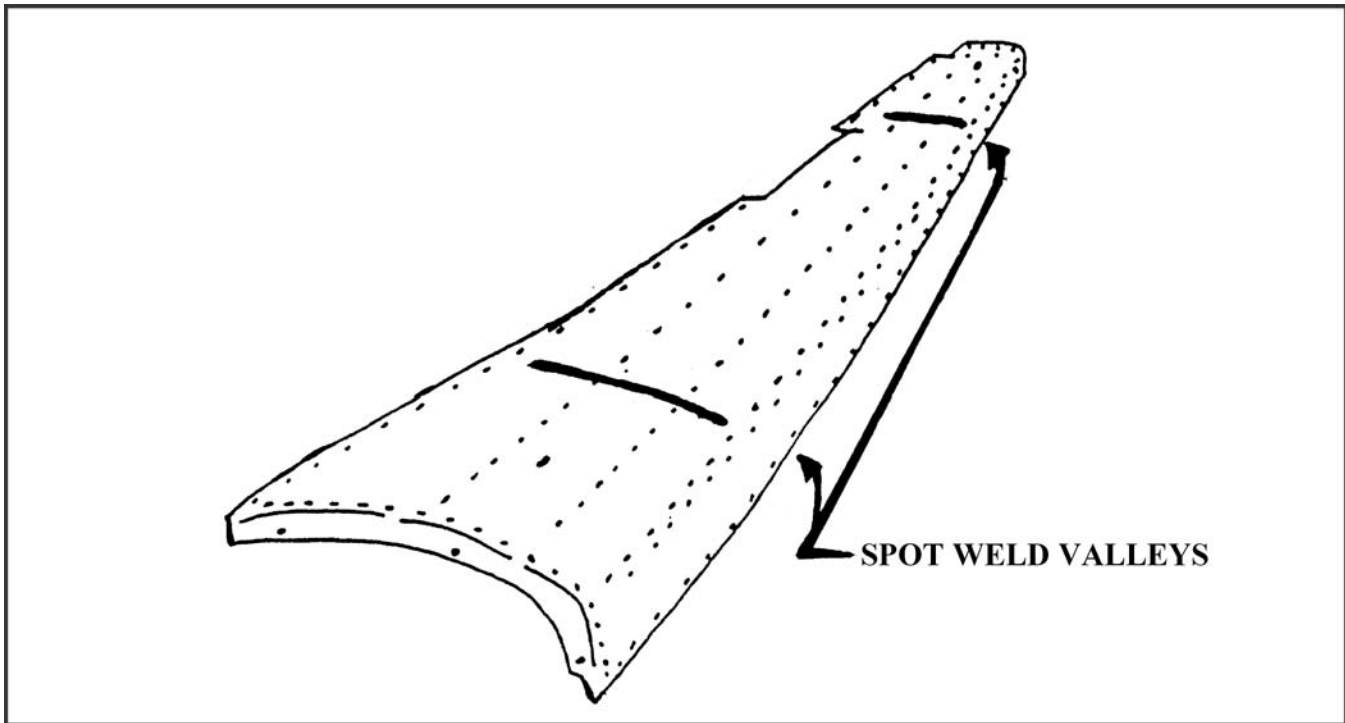

Figure 1
- (1) Remove all existing rubber from steel boards. Using a gas torch, carefully heat steel and scrape off rubber with a putty knife. All surfaces, edges, and small holes must be free of rubber.
- (2) Complete all necessary metal work. All edges should be smooth and straight.
- (3) Sand blast both sides of steel boards.
- (4) Fill low spots, dents, and spot-weld valley with body filler. All irregularities must be smoothed out because they will show through the rubber covers. **SEE FIGURE 1.**